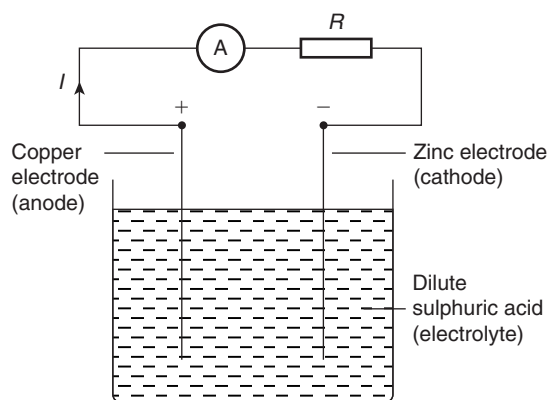

Figure 4.1
A **simple cell** comprises two dissimilar conductors (electrodes) in an electrolyte. Such a cell is shown in Fig. 4.1, comprising copper and zinc electrodes. An electric current is found to flow between the electrodes. Other possible electrode pairs exist, including zinc–lead and zinc–iron. The electrode potential (i.e. the p.d. measured between the electrodes) varies for each pair of metals. By knowing the e.m.f. of each metal with respect
If the simple cell shown in Fig. 4.1 is left connected for some time, the current I decreases fairly rapidly. This is because of the formation of a film of hydrogen bubbles on the copper anode. This effect is known as the polarization of the cell. The hydrogen prevents full contact between the copper electrode and the electrolyte and this increases the internal resistance of the cell. The effect can be overcome by using a chemical depolarizing agent or depolarizer, such as potassium dichromate, which removes the hydrogen bubbles as they form. This allows the cell to deliver a steady current.
- (i) The metal that is higher in the series acts as the negative electrode, and vice versa. For example, the zinc electrode in the cell shown in Fig. 4.1 is negative and the copper electrode is positive.